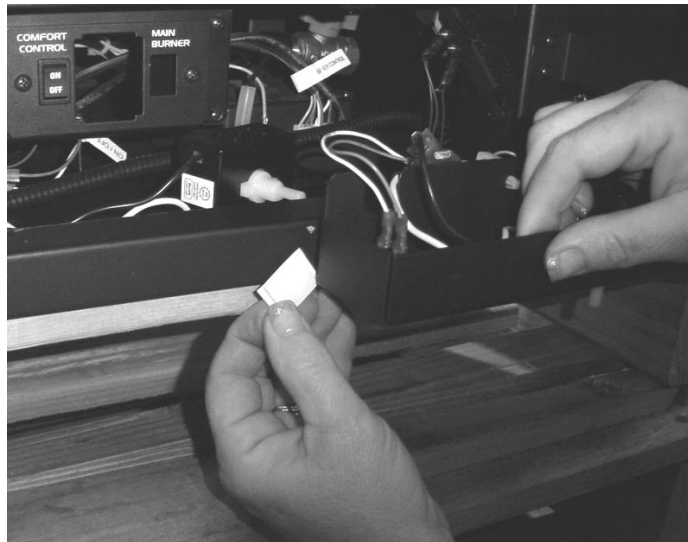

Figure 8
- 9 Attach the double-back tape to the back left side of the switch box (see Figure 8). This secures the switch box to the fireplace and prevents it from vibrating.